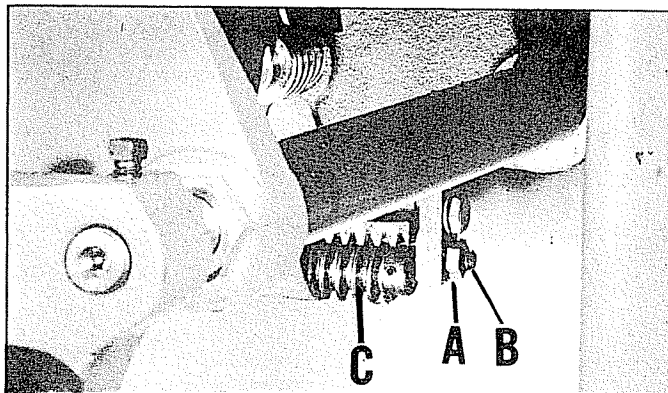

Fig. 10.
4. If the blade is not at 90 degrees, loosen lock-nut (A) Fig. 10, and turn adjusting stop screw (B) in or out. The adjusting stop screw (B) should stop against the end of the tilting screw (C) when the blade is at 90 degrees to the table. Recheck and adjust further if necessary.